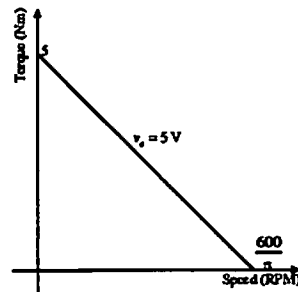
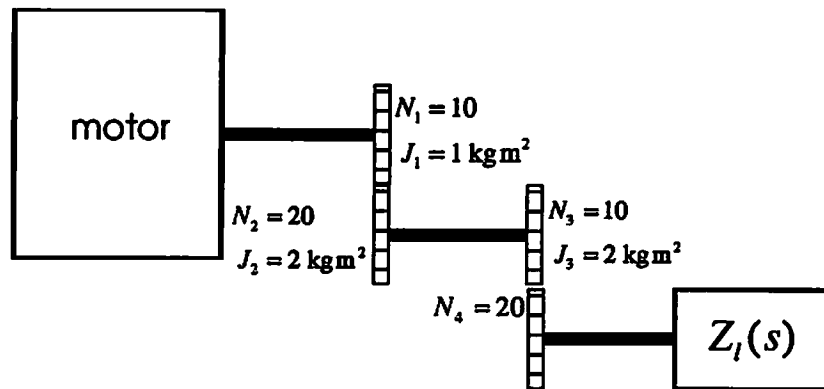

Figure 2: Torque-Speed Characteristics
Figure 3: Gear-box
- 1–5 A field voltage controlled dc. motor whose torque-speed characteristics are shown in Figure 2 drives a load with inertia  $16 \text{ kg m}^2$  and bearing resistance  $32 \text{ N m/(rad/s)}$  through the gearbox, illustrated in Figure 3, in which some of the gears have non-negligible inertia. Find the transfer function relating the load speed to the armature voltage. (Adapted from Nise [?], Problem 2.39, page 106).